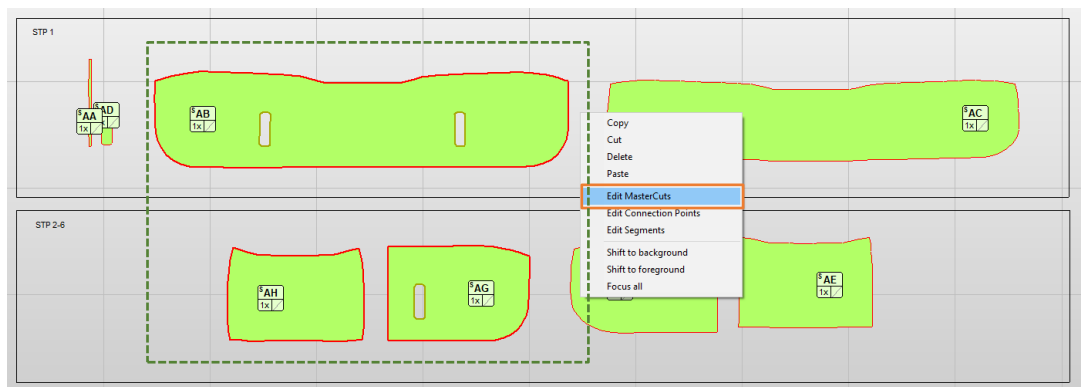

Figure 263
The ability to vary the colors of our MasterCuts as desired also gives us the opportunity to use the same colors as in our 3D. This way you can see immediately which MasterCut belongs where (Figure 263; from E2. Lay-up Sequence).
53. To change the color of our MasterCuts we can do this for single mastercuts just by double click. Further we can also select several MasterCuts at the same time, right-click and then select **[Edit MasterCuts]** (Figure 263).